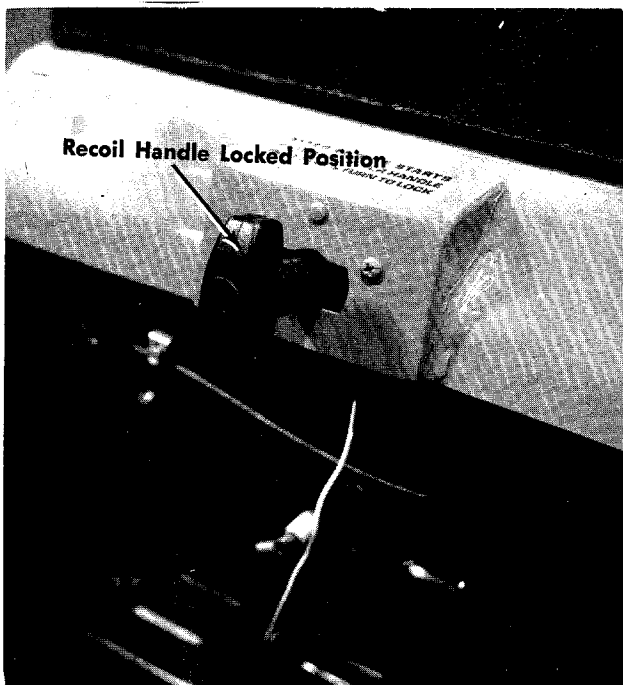

FIGURE 10. RECOIL HANDLE
The key must be turned to the ON position before you pull the recoil handle to start the engine. Remove the key when the mower is not in use. Turn the key to the left to the OFF position to stop the engine. See figures 10 and 11.
6. Turn the ignition key to the ON position. Twist the recoil starter handle until it is free and pull it with a quick steady motion. After the engine starts, return the recoil starter handle. Twist it until it locks. See figures 10 and 11.